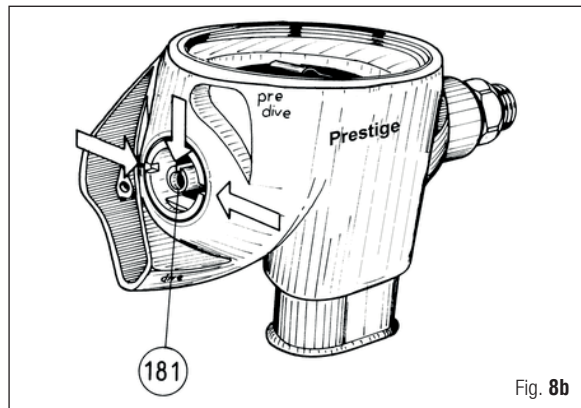

Fig. 8b
1. THE DPD LEVER (180) POSITIONED WITH THE CONCAVE PART UPWARD
2. THE GROOVE OF THE DPD LEVER SUPPORT (181) FACING UPWARD (FIG. 8B).
- d. Correctly insert the spring (102) into the DPD housing (182).